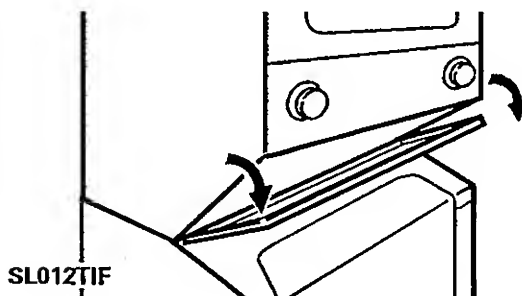

Figure 4-2
3. Roll the top of the access panel toward you and lift away from the machine (*Figure 4-2*).